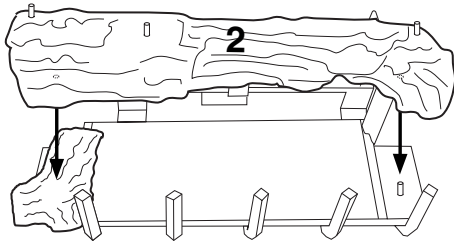

Figure 41 - Installing Log No. 2
2. Rest left side of log #2 (front log) onto top of log #1. Place right side of log onto second pin located on right side of grate (see Figure 41).